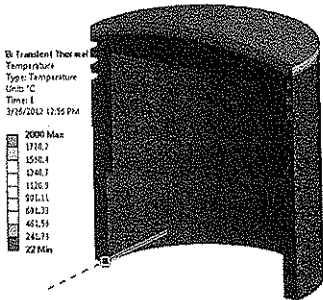
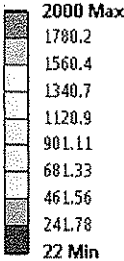

Figure 11-41 Isometric view of the sectioned model
Figure 11-42 The Legend displaying the temperature distribution across the model
- Create a section of the model, refer to Figure 11-41 and then choose the ISO ball at the bottom right corner of the Graphics screen; the model is positioned, as shown in Figure 11-41.
Figure 11-41 shows the color contours that indicate the distribution of temperature along various regions of the model. Red color contour displays the region with the maximum temperature, whereas blue color contour shows the region with minimum temperature. The other colors represent various temperatures that lie within the maximum (red contour) and minimum (blue contour) temperatures. The color contours and their respective values can be seen in the Legend, refer to Figure 11-42. The temperature on the dome
of the piston is maximum because the Temperature boundary condition is applied on it and the component has attained maximum temperature in this region. The effect of this temperature on the farther regions is minimum, refer to Figure 11-41. In this model, the maximum temperature is 2000 °C and the minimum temperature is 22 °C.